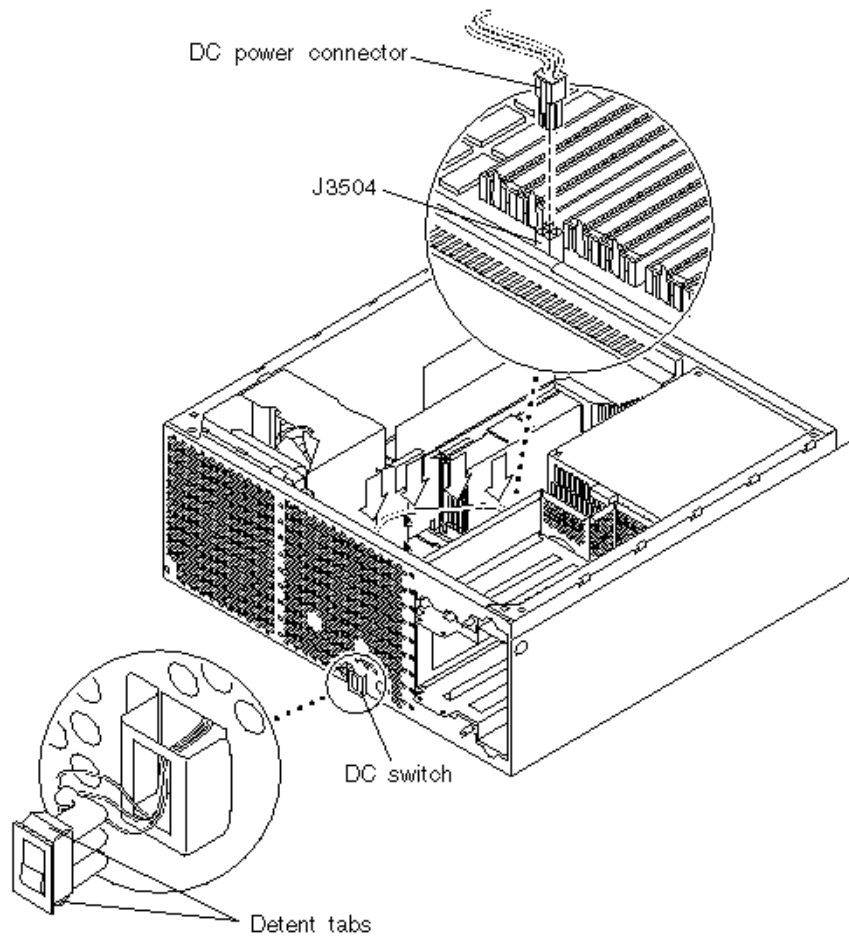

Figure 8-9 Removing and Replacing the DC Switch Assembly
8. **Remove the DC switch assembly as follows (Figure 8-9):**
1. **Replace the DC switch assembly as follows (Figure 8-9):**